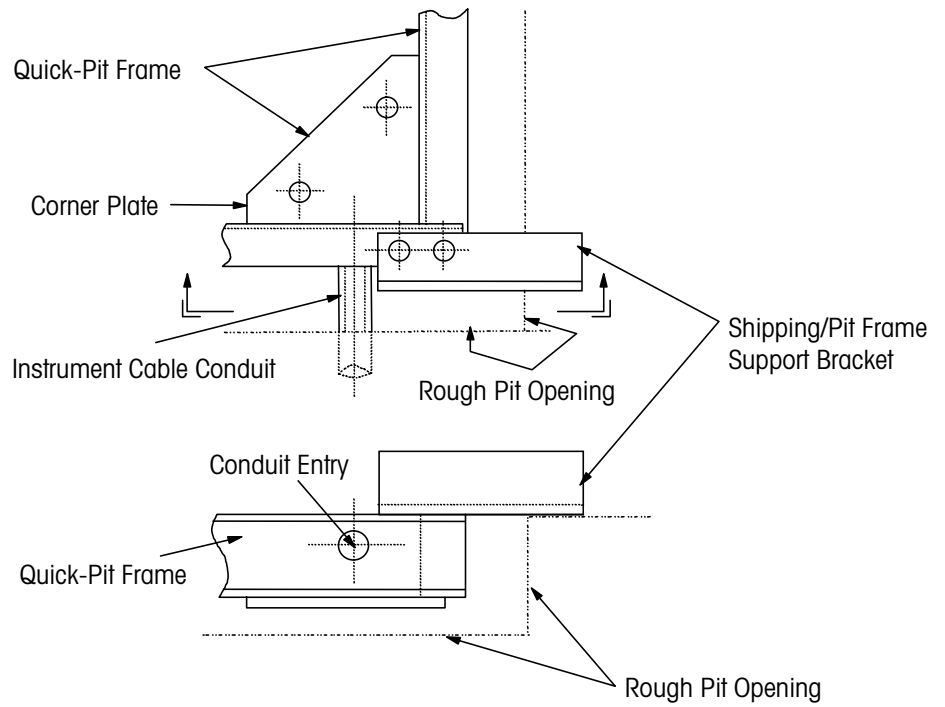

Figure 7-1: Shipping/Pit Frame Support Bracket Detail
4. Reverse the shipping brackets on the Quick-Pit frame so they extend outward from the frame (see Figure 7-1). Remove the VERTEX scale assembly at this time (if assembly was shipped within the Quick-Pit frame).
5. Place the frame into the pit, with the shipping brackets resting on the existing floor (see Figure 7-1).